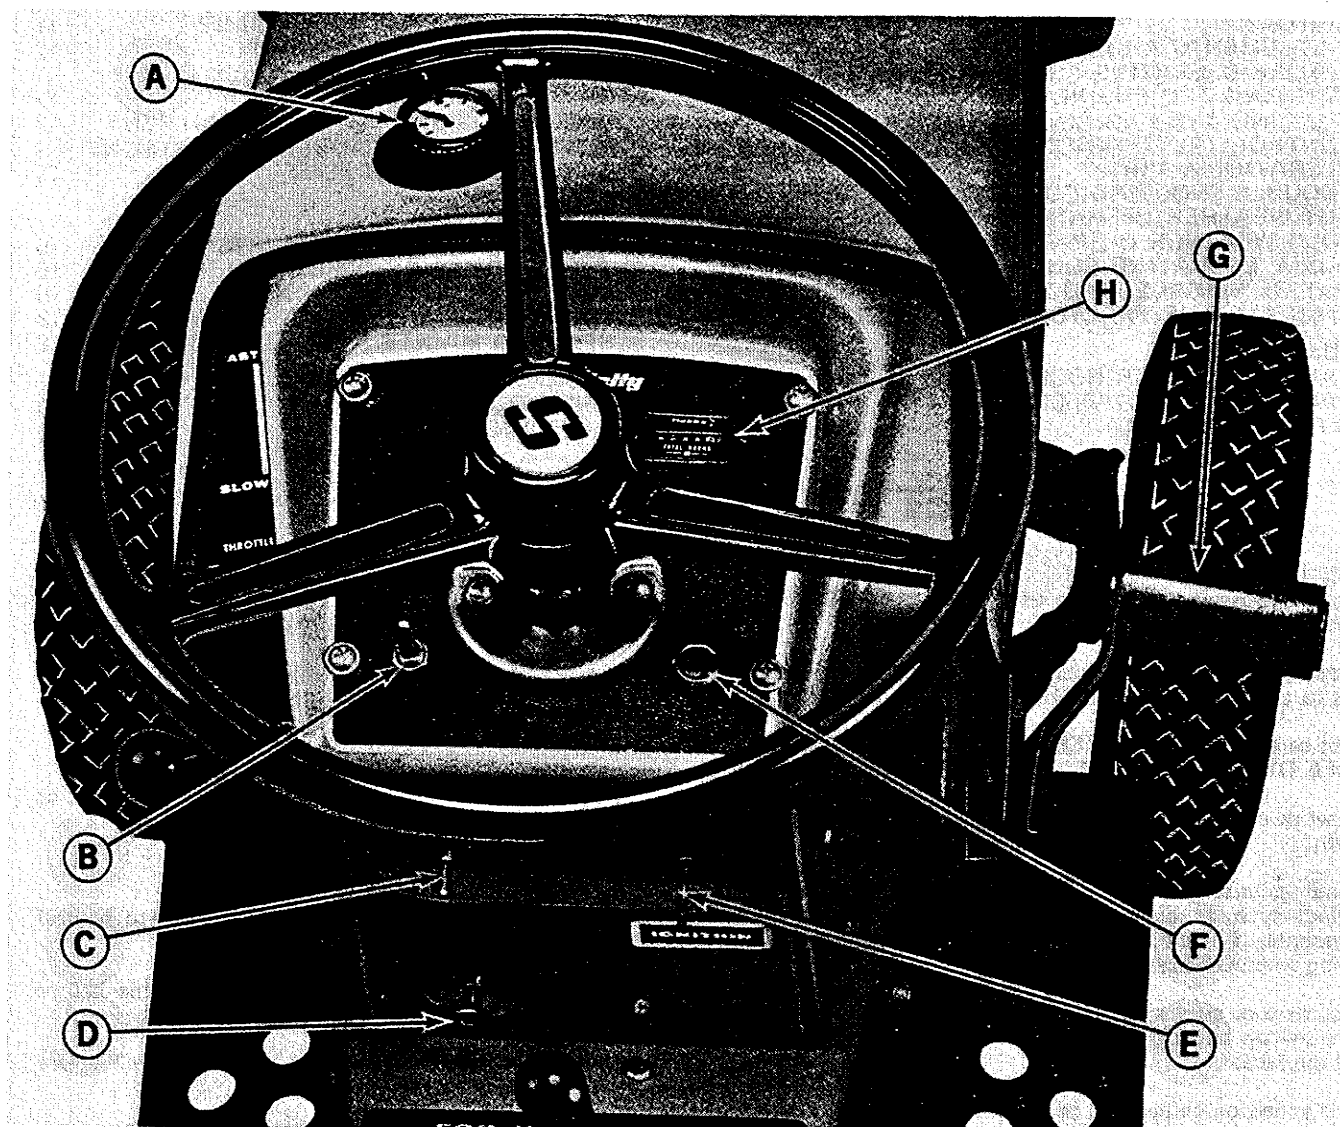

Figure 1. Tractor instrument panel as seen from the operators position on tractor seat.
Picture yourself seated on your Landlord tractor. Before starting the engine, let's learn how to understand and use the instruments and controls. The paragraphs referring to the instruments and controls are illustrated on figures 1 through 4.
IGNITION SWITCH: (Figure 1, item E) To actuate the ignition switch first insert the ignition key as shown. When the key is turned clockwise to the first position, the ignition is ON. In the ON position the lights, hourmeter, etc. will operate. Turn the key clockwise past the ON position to the START position to actuate the starter. **THE TRANSMISSION SHIFT LEVER MUST BE IN THE NEUTRAL POSITION AND THE POWER TAKE OFF CLUTCH CONTROL LEVER (S) MUST BE IN THE DISENGAGED POSITION BEFORE THE STARTER WILL ACTUATE.** Release the
CHOKE CONTROL KNOB: (Figure 1, item D) The choke control knob may be pulled out to increase the amount of fuel entering the engine for starting and cold weather warmup. When starting a cold engine in cold weather pull the choke all the way out. Some choke may be required to start the engine when the air temperature is above 70 degrees F. or while the engine is still warm from being recently run. After the engine has started, push the choke in slowly. In cold weather it may be necessary to leave the choke pulled out slightly for three or four minutes while the engine warms up. **NEVER OPERATE THE ENGINE WITH THE CHOKE OUT AFTER IT HAS HAD SUFFICIENT**
GENERATOR WARNING LIGHT:(Figure 1, item F)
HOURLMETER: (OPTIONAL) (Figure 1, item H)
FUEL GAUGE AND FILLER CAP:(Figure 1, item A)
LIGHT SWITCH: (OPTIONAL) (Figure 1, item C)
POWER LIFT SWITCH: (OPTIONAL)(Figure 1, item B)
CLUTCH AND BRAKE PEDAL:(Figure 1, item G) Depressing the pedal will first disengage the tractor drive clutch. As you continue to depress the pedal, the brakes will be applied to stop the tractor.
The diagram printed on the tractor frame shows the location of each position. To shift the transmission into reverse or second, pull the shift lever back toward you, then push it all the way to the right or left into the desired position. To shift into first or third, push the shift lever forward and move it left or right all the way to the desired position. Do not attempt to move the shift lever unless the foot pedal (Figure 1, item G) is depressed and tractor motion is stopped. The shift lever must be in the neutral **START** position for the engine to start.